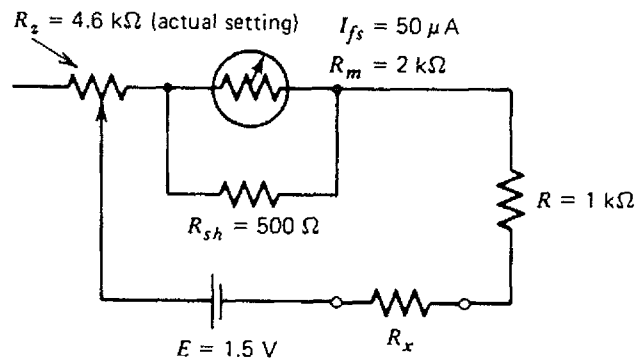

FIGURE 2-35 Circuit for Problem 2-10.
- 2-10** In the circuit of Fig. 2-35, what is the value of R_x if the meter reads half-scale?